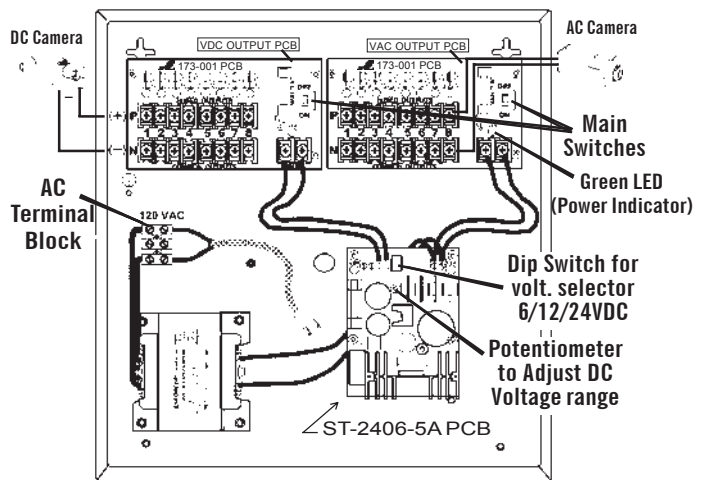

Fig. 2: Power Connections
3. Connect the main power cord to the insulated AC terminal block as shown in fig. 2.
4. Connect the 24VAC power input wires of the CCTV or accessories to the PCB on the right, and connect the 12VDC power input wires to the PCB on the left (see Fig. 2). Observe correct polarity when connecting 12VDC input wires. The terminals marked "P" are for positive wires, and "N" are for negative wires. Each output consists of one "P" terminal and one "N" terminal.
7. Adjust the "VDC" voltage output of the left PCB if needed - If the voltage output reading at the end of a VDC wire pair falls below the minimum voltage requirement, use a screw driver to carefully turn the potentiometer to the right which is located on the ST-2406-5A PCB (see Fig. 2). This will increase the total voltage output from the left PCB to compensate for the voltage drop.